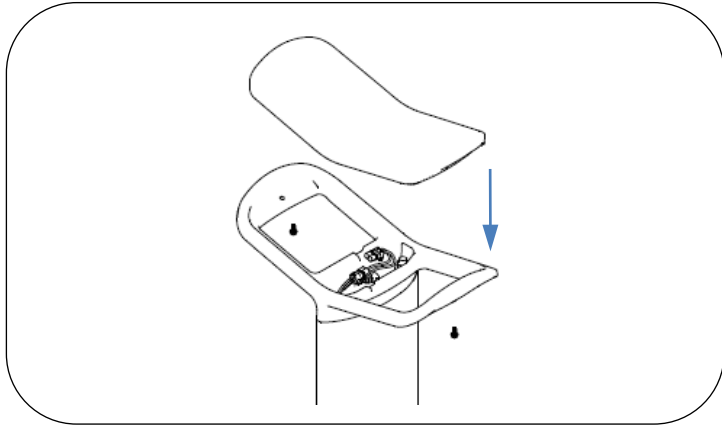

Fig. 8 – install top casting
6. Set cartridge into place and install screws to secure, see Figs. 8 and 9.